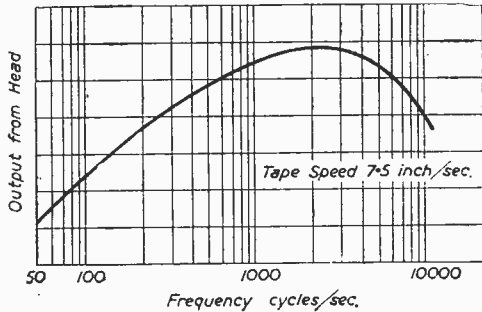
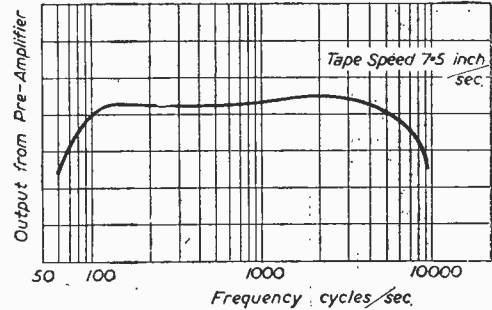

Fig. 2.—Uncompensated output to be expected from the playback head.
Fig. 3.—Equalised curve for constant input voltage.
that certain corrector circuits will be necessary to equalise the deficiency of linear output from the tape. A typical uncompensated response curve of the output likely to be obtained from category "A" tape is shown in Fig. 2; it can thus be seen that equalising is essential before anything approaching linear output is achieved. Fig. 3 shows an equalised curve for constant input voltage. The tape speeds in each case are 7.5ins. per second for high-fidelity reproduction. Lower tape speeds should be avoided owing to the rapid decline of the higher frequencies. As will be seen from the uncompensated curve, a sharp increase of output voltage above about 5 Kc's is required. Further, an appreciable amount of bass boosting is necessary, at the rate of something like 8 db. per octave, for frequencies below about 800 c/s.
(L) with a shunt capacitor of 0.0025 μ F (C8) the circuit will resonate at 6 Kc/s. which is about where we want the top lift. At frequencies far from resonance the presence of L1 and C8 have little effect, but C6 and R9 tend to give a bass lift by attenuating the higher frequencies. At resonance, however, the dynamic resistance of the circuit is rendered greater, producing an increase in gain at that frequency, the combined effect of the two corrector circuits produce a tape output at the preamplifier similar to the response curve shown at Fig. 3, assuming a constant record voltage independent of frequency. The resistor R7 increases the effective load impedance of the first triode, while R10 increases the input impedance to the second triode in relation to the top boost circuit, thus producing a greater output at resonance. All normal hum-reducing precautions will need to be taken in the preamplifier construction (see article by the author, "Hum Problems in Low Level Amplifiers," PRACTICAL WIRELESS, July issue).